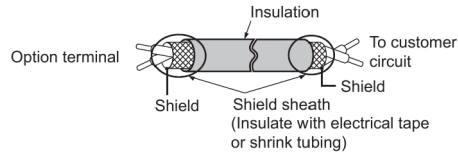
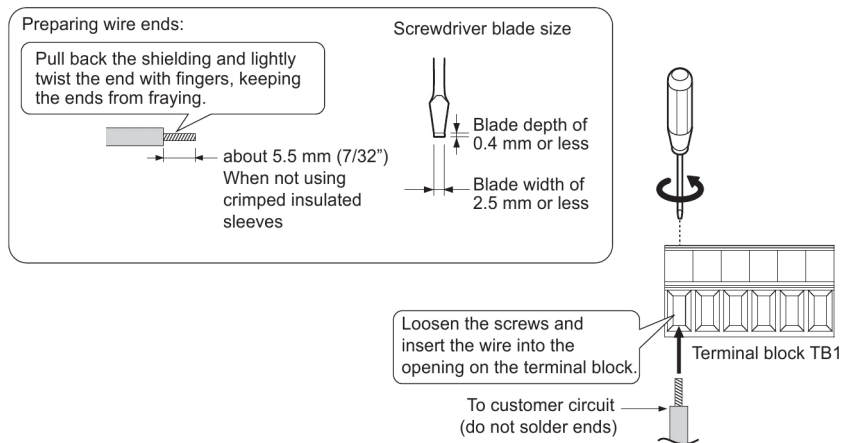

Figure 7: Preparing Ends of Shielded Cable
Figure 8: Preparing and Connecting Cable Wiring
2. There are two screw holes on the drive for use as ground terminals (I). When connecting three options, two ground wires will need to share the same drive ground terminal.
4. Prepare and connect the wire ends as shown in Figure 7 and Figure 8. Refer to Wire Gauges, Tightening Torques, and Crimp Terminals on page 18 to confirm that the proper tightening torque is applied to each terminal. Take particular precaution to ensure that each wire is properly connected and wire insulation is not accidentally pinched into electrical terminals.